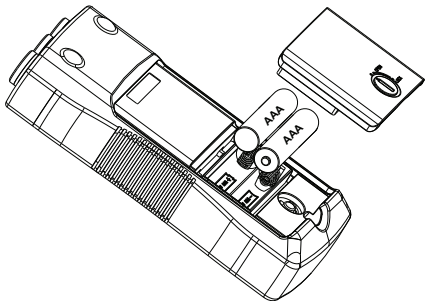

Figure 3: Replacing batteries
The PRM-6 uses two 1.5 V AAA batteries (supplied). To replace the batteries, follow these steps and refer to Figure 3:
4. Replace the batteries as shown in Figure 3. Observe the battery polarity shown in the battery compartment.